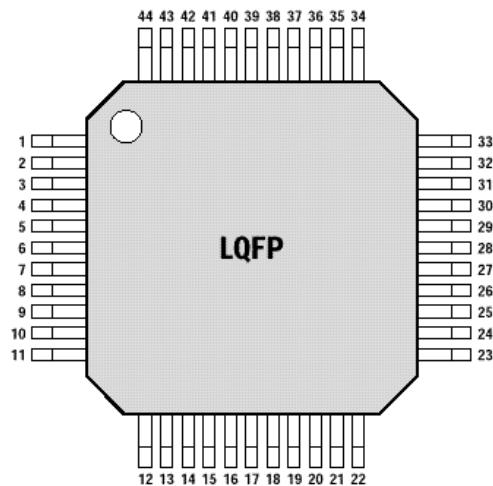

Figure 2. 44-pin PLCC package
- 44-pin PLCC (Figure 1 and Table 2) and 44-pin LQFP (Figure 2 and Table 3) packages.